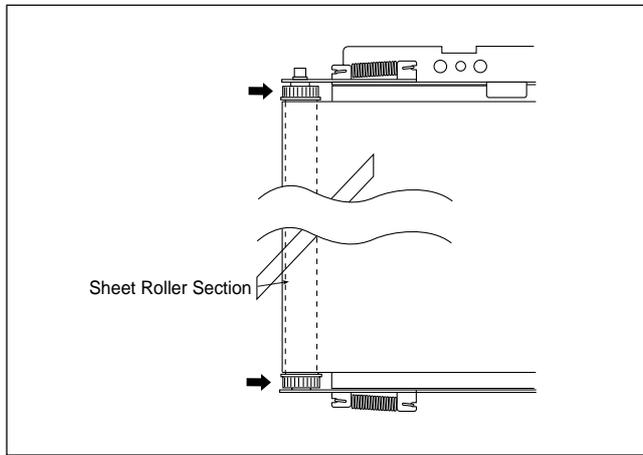

Fig. 20
18) Remove the Endless Sheet. (See Figures 20 and 21, 22.)
1. Push the Sheet Roller Section inside as shown in Figures 20 and 21.